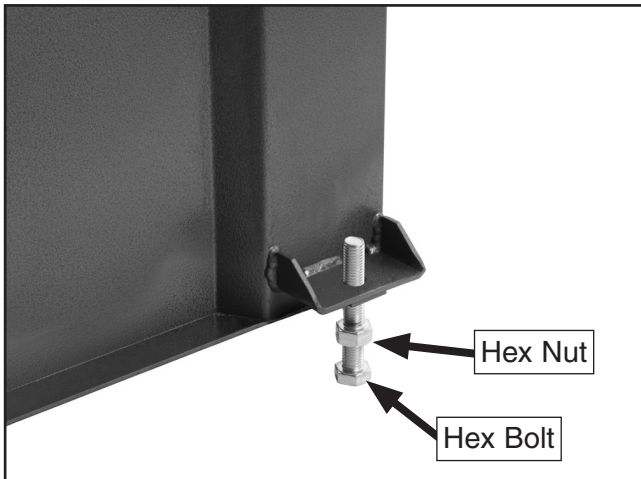

Figure 10. Leveling feet.
2. Insert one M16-2 x 50 hex bolt with an M16-2 hex nut into each of the feet, as shown in **Figure 10**.